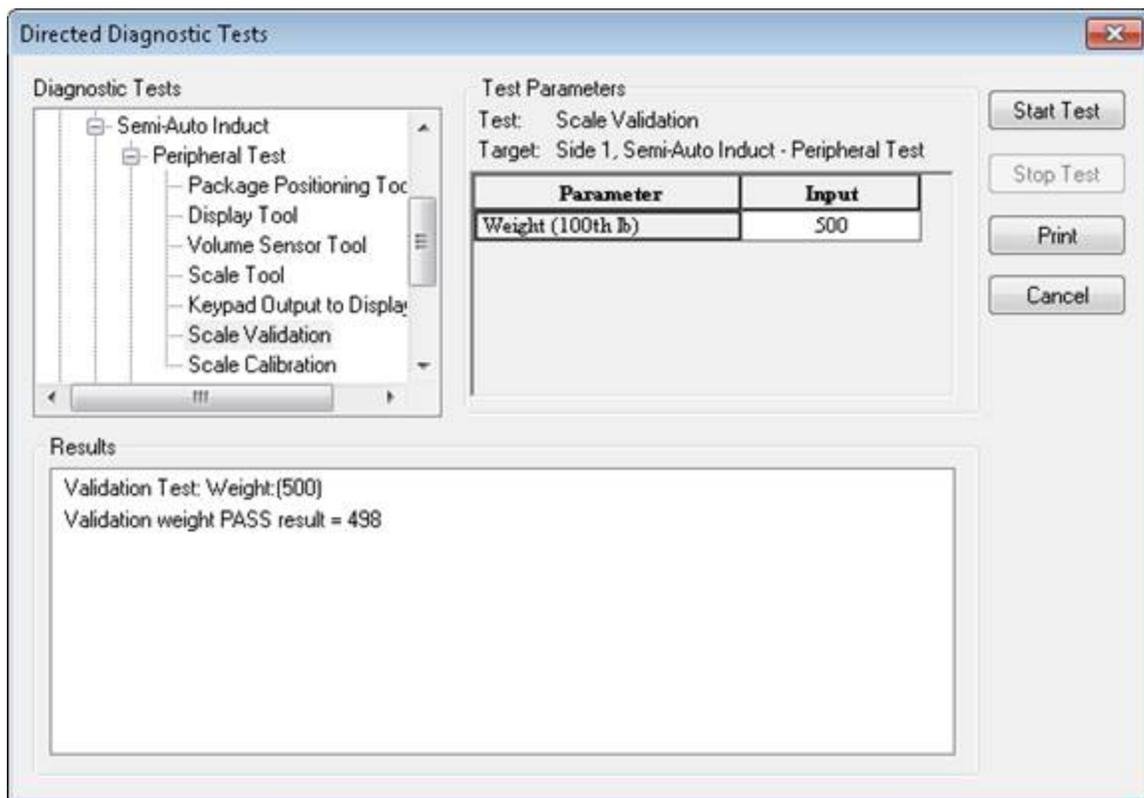

Figure 1-5. Scale Validation Result Messages
16. At the SMS, review the Scale Calibration test results (Figure 1-5). The results will indicate **Validation weight PASS** or **FAIL**.